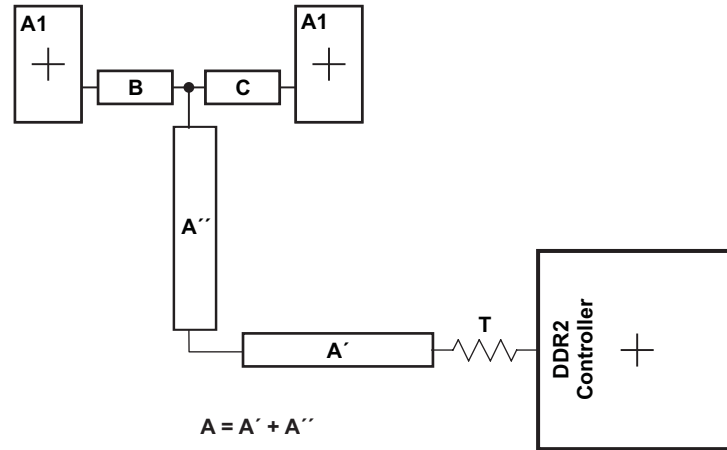

Figure 9-10. CK and ADDR_CTRL Routing and Topology
Figure 9-10 shows the topology of the routing for the CK and ADDR_CTRL net classes. The route is a balanced T as it is intended that the length of segments B and C be equal. In addition, the length of A ($A'+A''$) should be maximized.
(1) The length of segment $A=A'+A''$ as shown in Figure 9-10.
(2) Center-to-center spacing is allowed to fall to minimum (w) for up to 500 mils of routed length to accommodate BGA escape and routing congestion.
(3) CACLM is the longest Manhattan distance of the CK and ADDR_CTRL net classes.